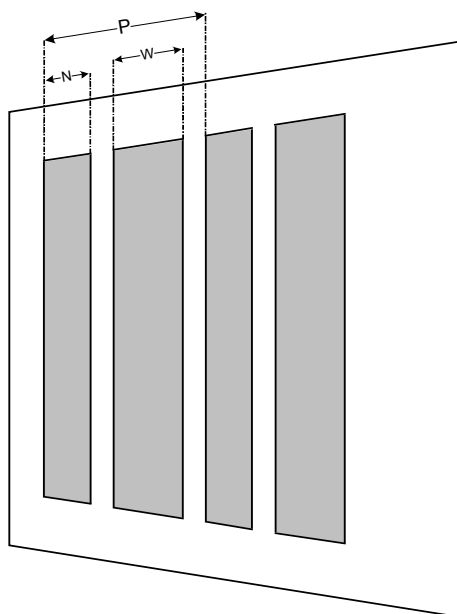

Figure 20
Figure 20 shows measurements of the folds. When measuring the folds, first measure the distance (P) along the edge of a pair of "in" and "out" folds including both the ribs and the gaps. Next measure the width of the narrow (N) and wide (W) ribs. Finally, calculate the gap as one-half the difference between the width of the pair and the combined width of the ribs: